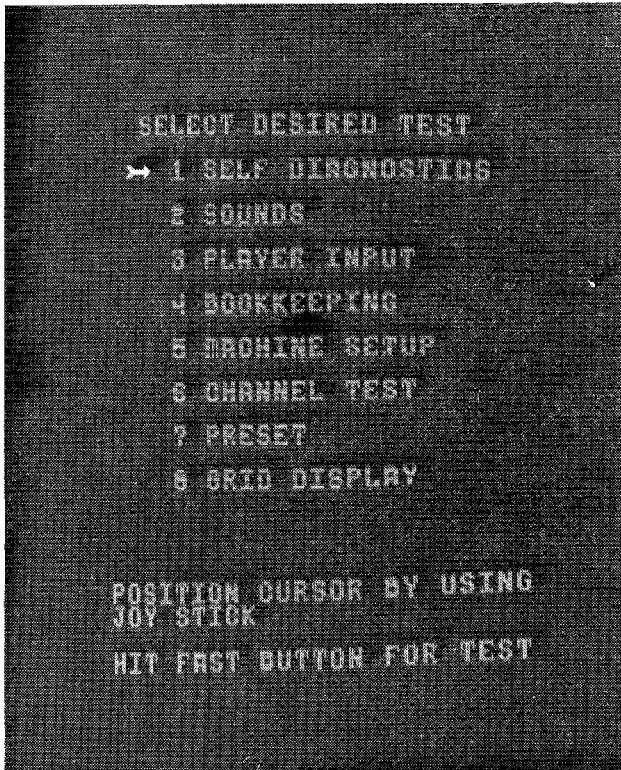

Figure 3-1 Self-Test — Menue
The Self-Test mode has eight (8) major categories as illustrated by Figure 3-1.